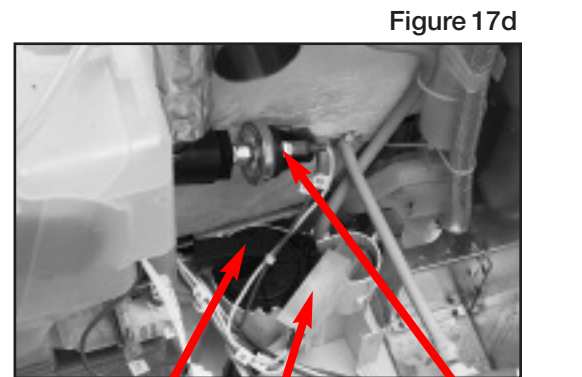

Figure 17d
7. This provides access to the pressure switch for the upper arm, chamber full switch (black) and the overflow switch (clear) (Figure 17d).